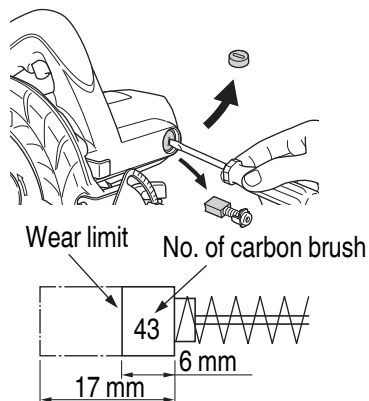

Fig. 10
3. Inspecting the carbon brushes (**Fig. 10**)